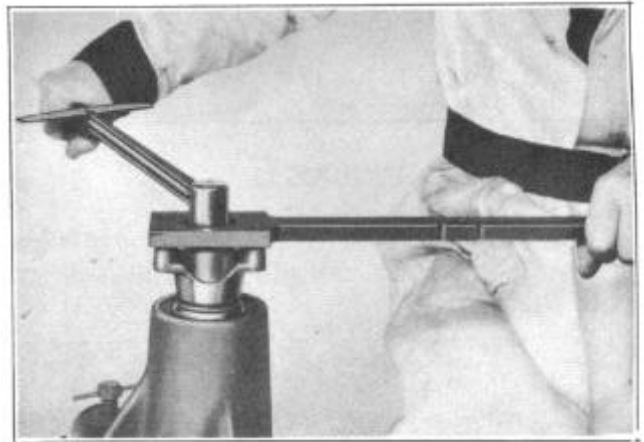

FIGURE 16
1. With companion flange holding tool J-2637 and J-2971 deep socket remove the drive pinion nut and washer as shown in Figure 16.